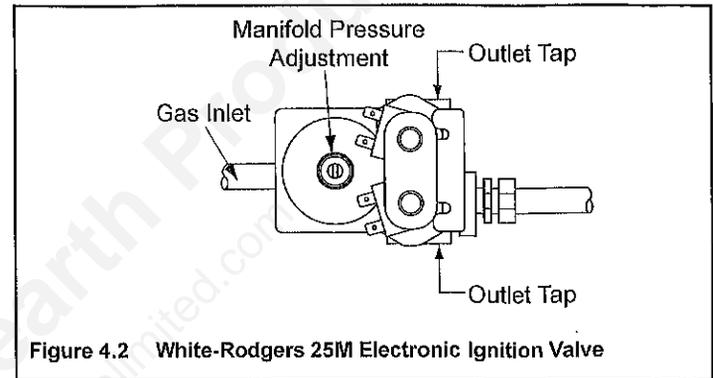

Figure 4.2 White-Rodgers 25M Electronic Ignition Valve
- Using a 7/16 wrench, unscrew the brass manifold pressure adjustment fitting. See Figure 4.2.